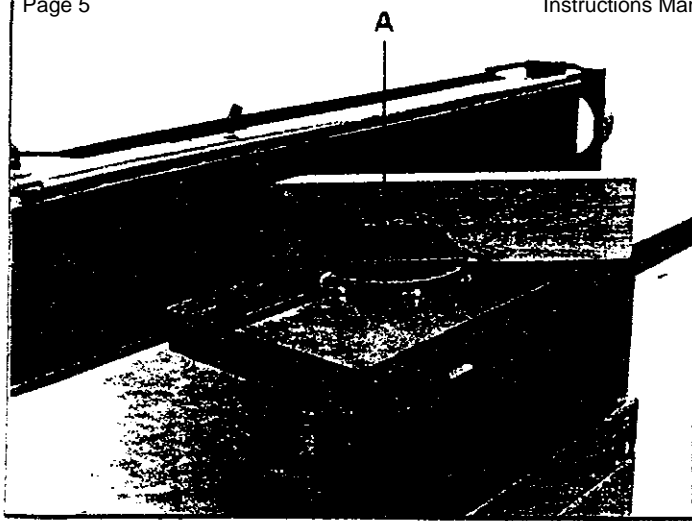

Fig: 5
1. MITER GAUGE (A) CAN BE ADJUSTED  $45^{\circ} - 90^{\circ}$  AND CLAMPED BY HEX. HANDLE (B), SEE FIG. 5
2. ADJUST MITER GAUGE (A) TO GET REQUIRED ANGLE GAUGE.